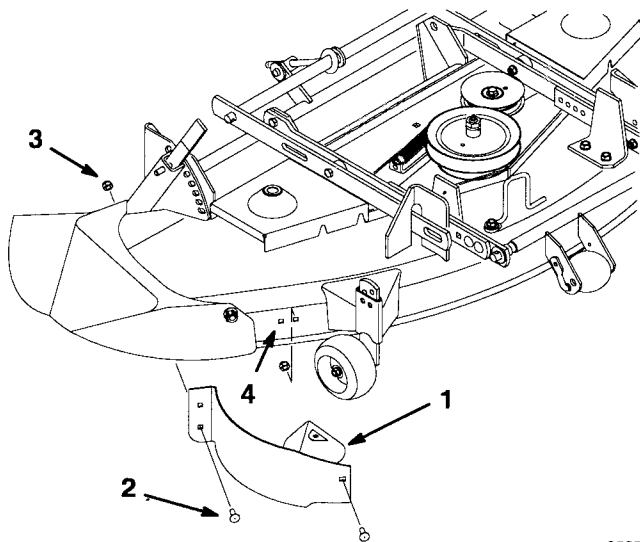

Figure 23
1. Remove the lock nuts from the right side baffle (Fig. 23). Slide the baffle out the discharge opening to remove.
2. Install previously removed 5/16–5/8" (16 mm) bolts and 5/16" lock nuts in open holes of the mower for safety (Fig. 23).